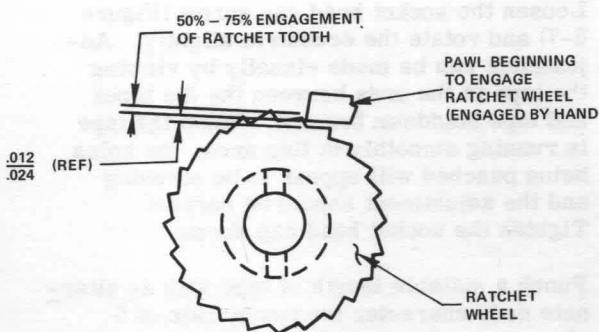
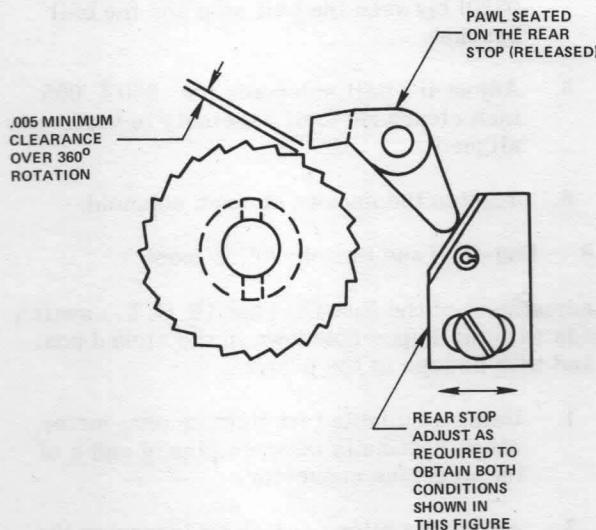

Figure 5-8 Pawl Cam Adjustment
Figure 5-9 Radial Clearance Adjustment
- Rotate the pawl counterclockwise until it just engages the ratchet wheel. The pawl should engage anywhere from 25% to 50% from the bottom of the ratchet wheel tooth (Figure 5-8).
4. Rotate the ratchet wheel and assure that a minimum clearance of 0.005 inch is obtained between the pawl and all teeth on the ratchet wheel (Figure 5-9). Readjust the pawl cam as necessary to obtain this clearance and repeat steps 1 through 4 until the dimensions referenced in Figures 5-8 and 5-9 are within tolerance.